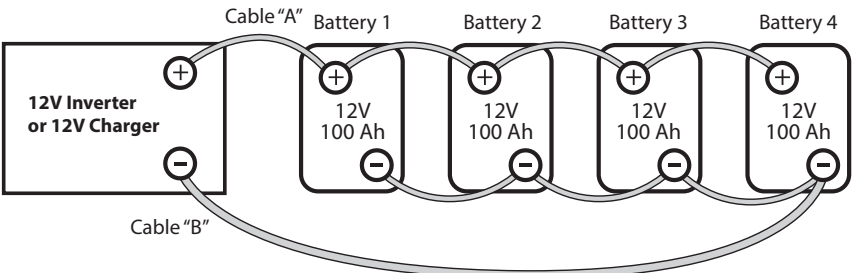
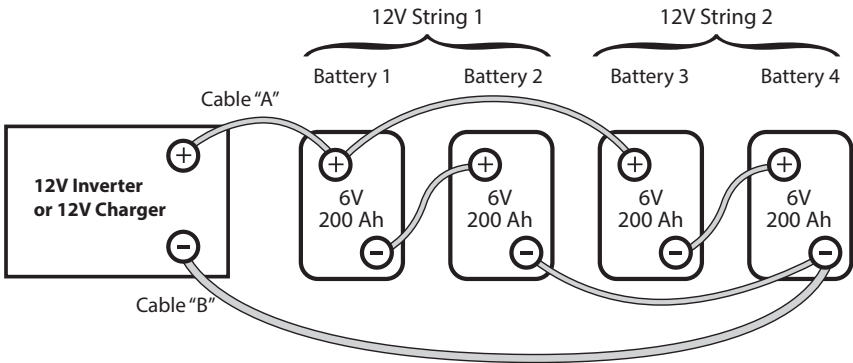

Fig 7.3 Parallel Connection
Fig. 7.4 Series-Parallel Connection
When two or more batteries are connected in parallel, their voltage remains the same but their Ah capacities add up. Fig. 7.3 shows 4 pieces of 12V, 100 Ah batteries connected in parallel to form a battery bank of 12V with a capacity of 400 Ah. The four Positive terminals of Batteries 1 to 4 are paralleled (*connected together*) and this common Positive connection becomes the Positive terminal of the 12V bank. Similarly, the four Negative terminals of Batteries 1 to 4 are paralleled (*connected together*) and this common Negative connection becomes the Negative terminal of the 12V battery bank.
Figure 7.4 shows a series – parallel connection consisting of four 6V, 200 AH batteries to form a 12V, 400 Ah battery bank. Two 6V, 200 Ah batteries, Batteries 1 and 2 are connected in series to form a 12V, 200 Ah battery (*String 1*). Similarly, two 6V, 200 Ah batteries, Batteries 3 and 4 are connected in series to form a 12V, 200 Ah battery (*String 2*). These two 12V, 200 Ah Strings 1 and 2 are connected in parallel to form a 12V, 400 Ah bank.
When 2 or more batteries / battery strings are connected in parallel and are then connected to inverter/charger (See Figs 7.3 and 7.4), attention should be paid to the manner in which the inverter/charger is connected to the battery bank. Please ensure that if the Positive output cable of the inverter/charger (*Cable "A"*) is connected to the Positive battery post of the first battery (*Battery 1 in Fig. 7.3*) or to the Positive battery post of the first battery string (*Battery 1 of String 1 in Fig. 7.4*), then the Negative output cable of the inverter/charger (*Cable "B"*) should be connected to the Negative battery post of the last battery (*Battery 4 as in Fig. 7.3*) or to the Negative Post of the last battery string (*Battery 4 of Battery String 2 as in Fig. 7.4*). This connection ensures the following:
If the Positive output cable of the inverter/charger (*Cable "A"*) is connected to the Positive battery post of the first battery (*Battery 1 in Fig. 7.3*) or to the Positive battery post of the first battery string (*Battery 1 of String 1 in Fig. 7.4*), and the Negative output cable of the inverter/charger (*Cable "B"*) is connected to the Negative battery post of the first battery (*Battery 1 as in Fig. 7.3*) or to the Negative Post of the first battery string (*Battery 1 of Battery String 1 as in Fig 7.4*), the following abnormal conditions will result:
*Quand il y a 2 batteries/fils de batterie ou plus qui sont liés en parallèle et branché à la fois, à un chargeur (Voir Figs. 7.3 et 7.4), il faut faire attention à la manière dont le chargeur est branché à la banque de batterie. Veuillez assurer que le câble positif de sortie du chargeur de batterie (Câble A) est lié à la borne positive de la première batterie (La batterie 1 dans la Fig. 7.3) ou à la borne positive de batterie qui est liée au premier fil (Le fil 1 et la batterie 1, Fig 7.4), et puis le câble négatif de sortie du chargeur de batterie (Câble B) est lié à la borne négative de la dernière batterie (La Batterie 4 dans la Fig. 7.3) ou à la borne négative de batterie qui est liée au dernier fil (Le fil 2 et La batterie 4 dans la Fig. 7.4). Cette connexion assure la suivante:*
*Si le câble positif de sortie du chargeur de batterie (Câble A) est lié à la borne positive de la première batterie (La batterie 1 dans la Fig. 7.3) ou à la borne positive de batterie qui est liée au premier fil (Le fil 1 et La Batterie 1, Fig 7.4), et puis le câble négatif de sortie du chargeur de batterie (Câble B) est lié à la borne négative de la première batterie (La batterie 1 dans la Fig. 7.3) ou à la borne négative de batterie qui est liée au premier fil (Le fil 1 de La Batterie 1 dans la Fig. 7.4), les conditions anormales résulteront:*